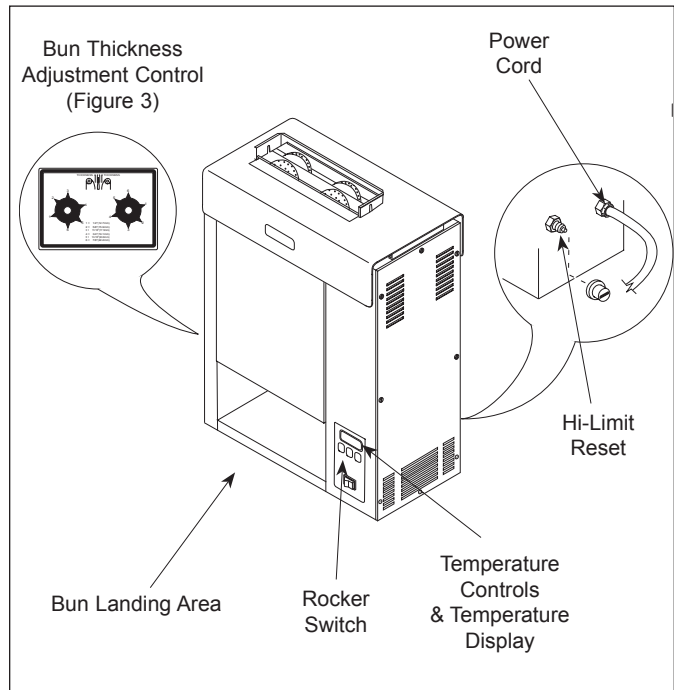

Figure 2. VCT-2000 Toaster
2. Turn the Rocker Switch on. (Figure 2). Allow the toaster to warm up for 30 minutes.
NOTE: The temperature display (Figure 2) will flash “LO” until the toaster reaches its preset operating temperature. When the toaster approaches the pre-set temperature of 600°F (315°C), “USE” appears in the temperature display and the unit is ready to toast buns. If “USE” does not appear in the window after a warm-up period of approximately 30 minutes, contact your Authorized Service Agency.
3. Drop Crowns and Heels into the slot (Figure 2). Cut sides of heel and crown must face each other.
4. Toasted buns will drop into the bun landing area (Figure 2) in approximately 10 seconds.
A Hi-Limit Control turns off electrical power to the heater and control circuits if the Platen overheats. To reset the control, allow sufficient time (10-15 minutes) for the unit to cool, then locate the Reset Button at the rear of the unit. Remove the black protective cap, press the Reset Button, and reinstall the protective cap (Figure 2).